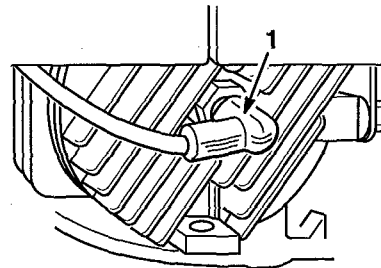

Figure 56
3. Remove spark plug (Fig. 56) and spin engine rapidly using starter to blow excess oil from the cylinder. Clean spark plug or replace if cracked, broken or electrodes are worn.
8. Reconnect spark plug wire (Fig. 56).